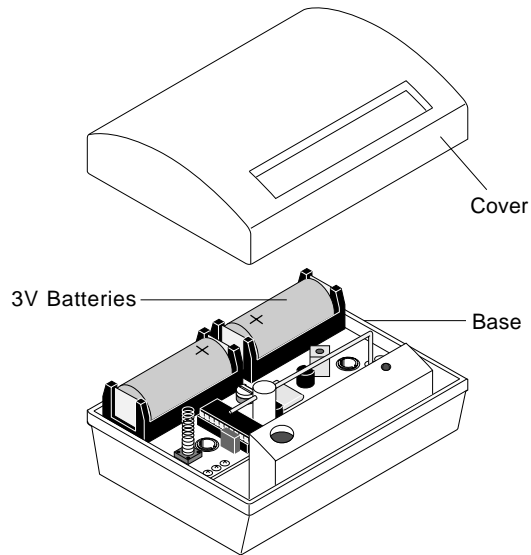

Figure 4. Battery installation
3. Insert two 3V batteries as shown in Figure 4